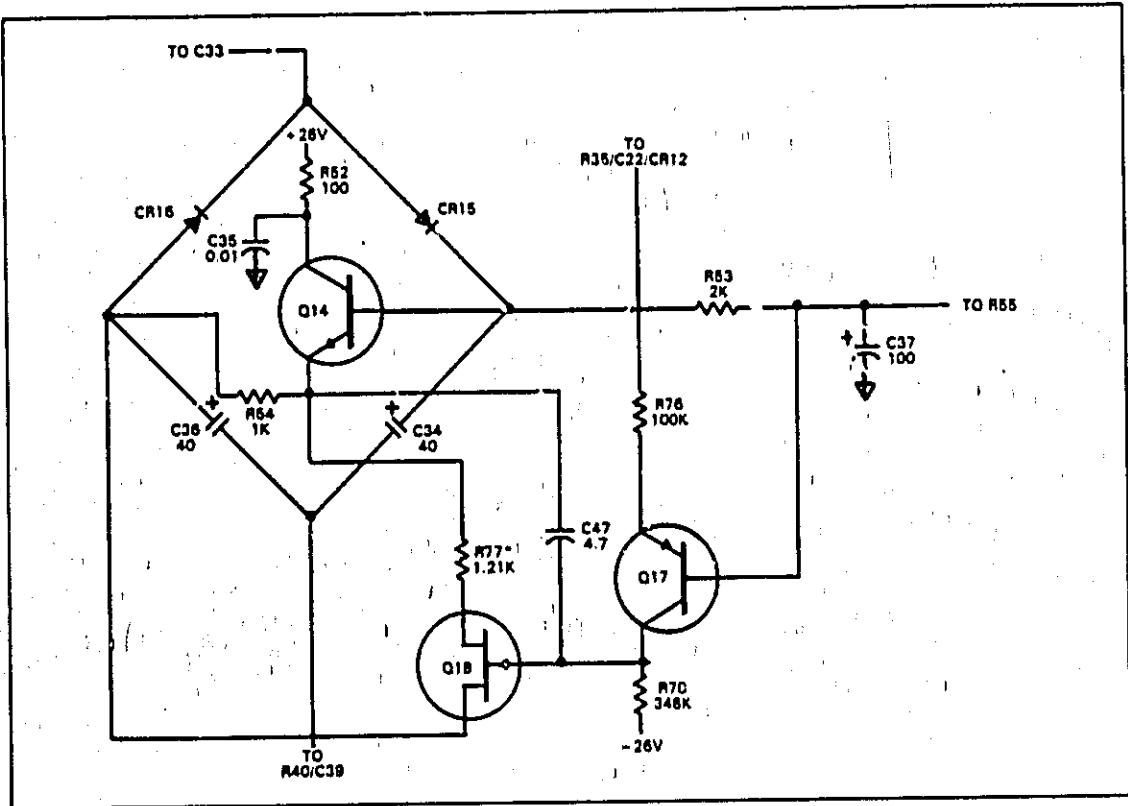

Figure C-1. Schematic Diagram Changes (Change #6)
- Page 6-7, Figure 6-1. Replace Back View drawing with Figure C-1.
Change the Meter Bridge to the bridge shown in Figure C-1.